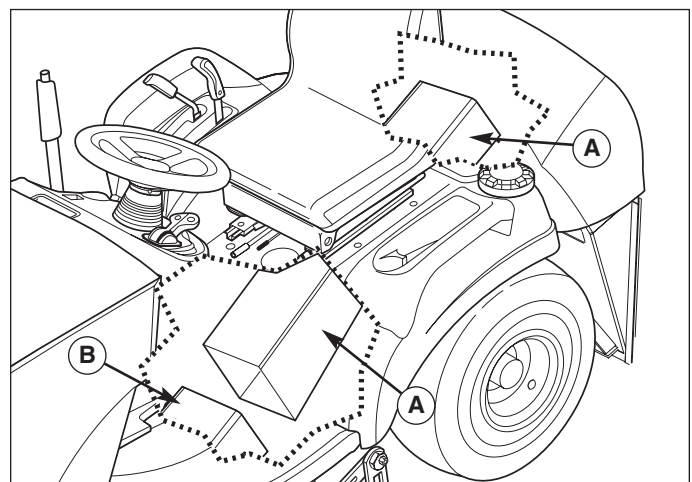

Figure 11. Discharge Tube
7. Push the discharger tube (A, Figure 11) toward the back to separate it from the mower discharge opening (B).
4. See Figure 11. Slide the discharge tube onto the mower discharge opening.